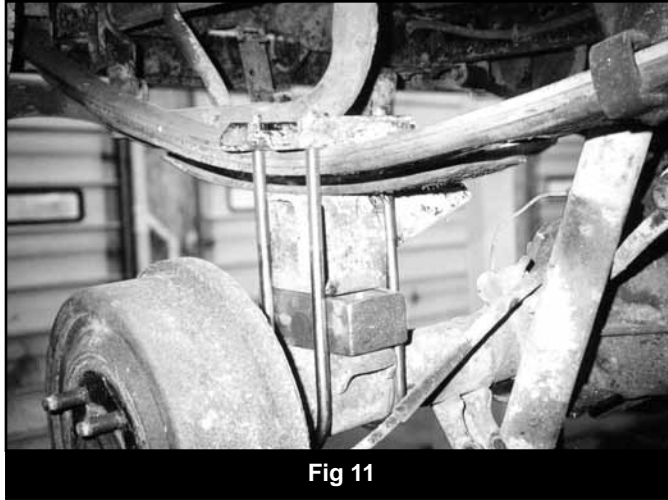

Fig 11
29. Place the new block between the axle pad and the existing block. The smaller tapered end of the block should face the front of the vehicle. (Fig. 11)